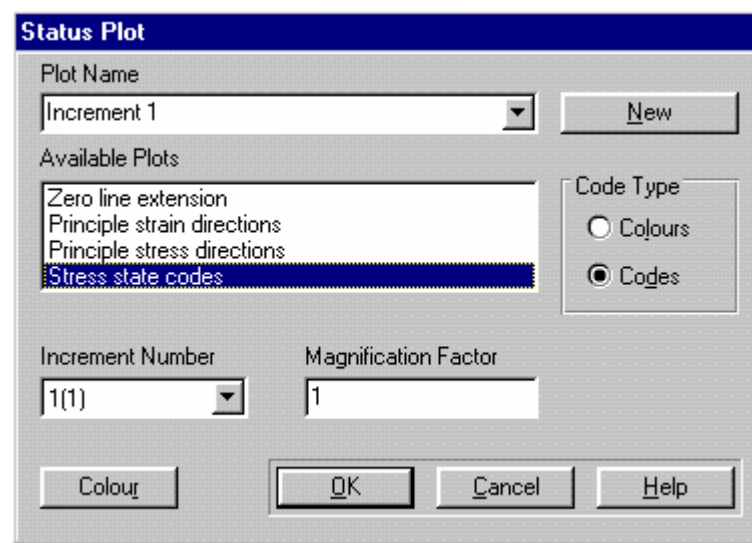

Figure 6-42: Setting Up A Stress State Code Status Plot
- Step 7** The Status Plot dialogue box should now look like Figure 6-42.